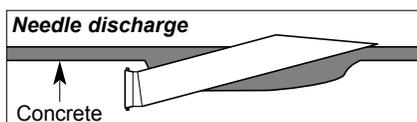

fig. 7
- The **needle discharge** — see *fig. 7 and page 19*.